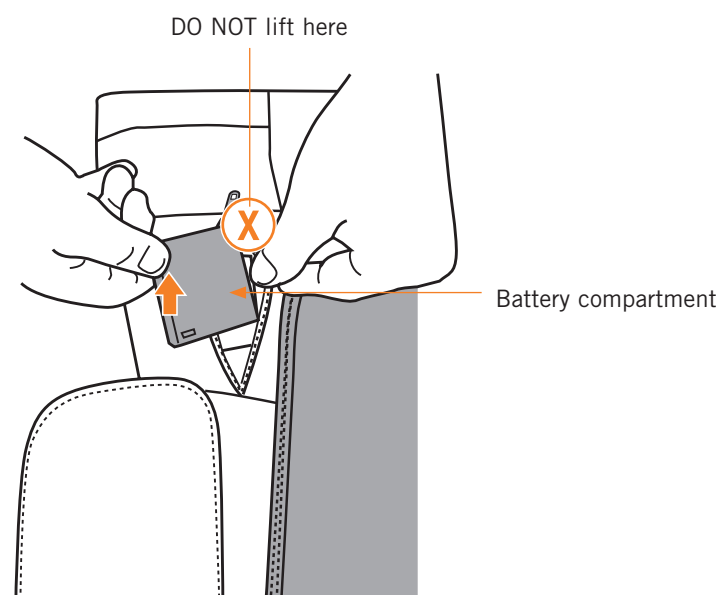

Fig.11
3. Lift the edge of the black battery compartment that is closest to the edge of the pad upward (do not pull up on the edge of the box from which the wiring is visible). (Fig.11).